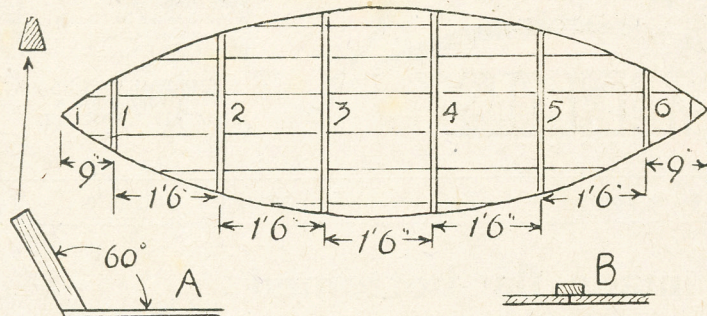

Fig. 1—A plan view of the floor and section of parts
Lute the edges of the boards close up tightly and keep together with a narrow batten at each end. Run a pencil line down the centre, and on this draw pencil lines across, as in plan view, Fig. 1, to guide the laying of the frame. At each end a stem post will be erected, as at (A). These are 1ft. 6in. lengths of 3in. square wood, planed to a triangular section, with a flat on the narrow end of  $\frac{3}{4}$  in.
Now remove the bottom battens and saw the bottom of the canoe to the shape as in Fig. 1. The battens can then be permanently fixed in place, but should cover the edges of the canoe bottom as well. Owing to the rise at each end it will be found that these